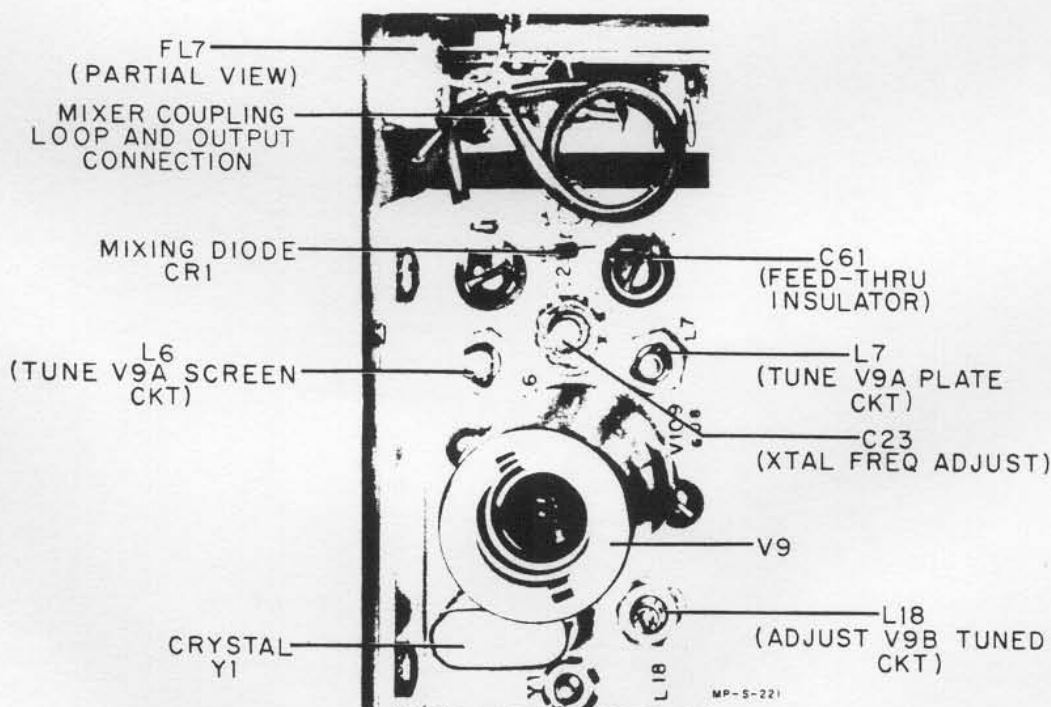

FIGURE 4-6. MODEL 608D CALIBRATOR OSCILLATOR ADJUSTMENT
associated adjustments are shown on Figure 4-6. If V9 or Y1 is replaced, the calibrator should be checked and, if necessary, adjusted.
- e. Tune L6 (Figure 4-6) in a clockwise direction to obtain a dip in output in the d-c voltage measured in step c. Two volts should be measured at the bottom of the dip. Then turn L6 counterclockwise to obtain exactly 3 vdc.